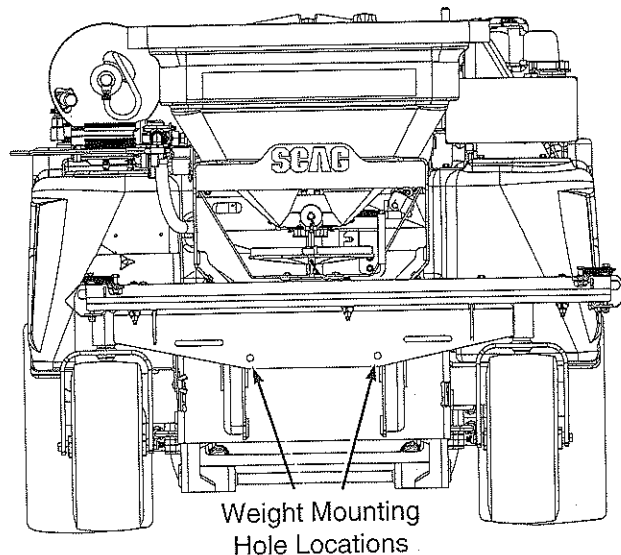

Figure 1.
2. Identify the two corresponding 1/2" mounting holes on the lower front frame of the STS. See Figure 1 below.